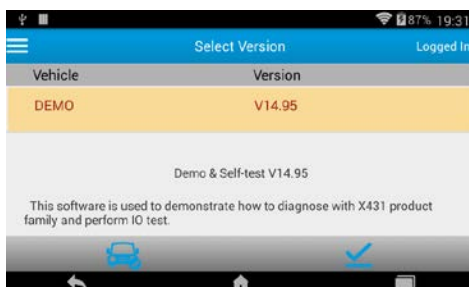

Fig. 5-9
1. Tap the “Demo” logo, the system will prompt you to select the diagnostic software version. See Fig. 5-9.